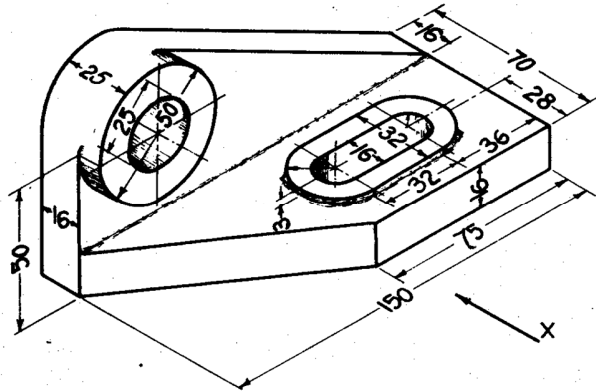

FIG. 18-52
(30) Fig. 18-52: (i) Front view. (ii) Side view from the left. (iii) Top view. Use first-angle projection method.